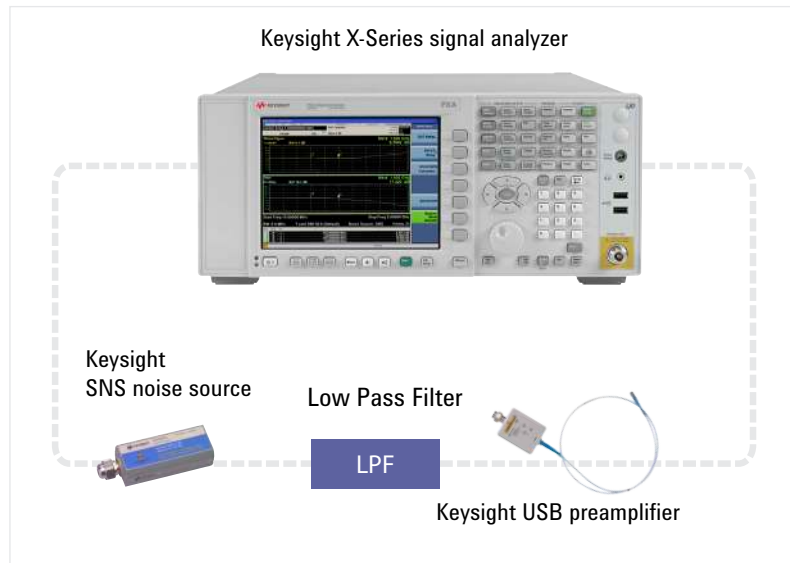
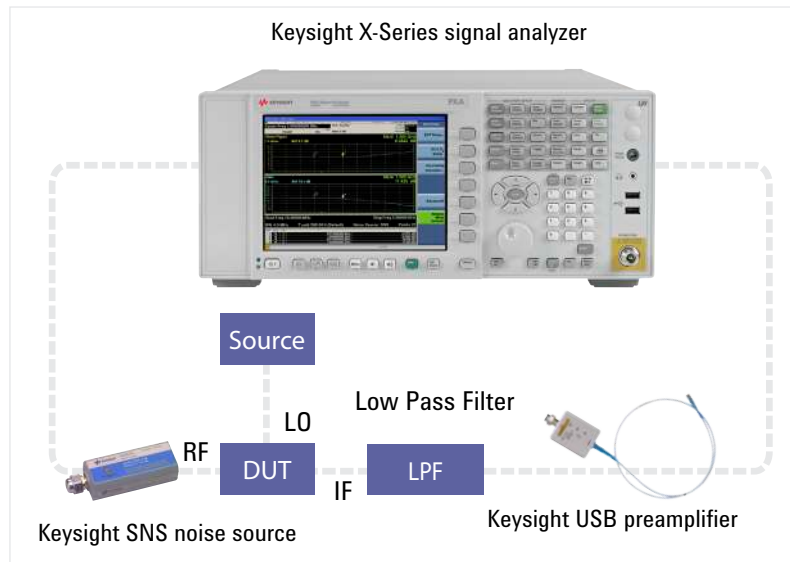

Figure 3. USB preamplifier calibration setup
Figure 4. Mixer noise figure measurement setup
Figure 4 shows a setup using a low pass filter (LPF) before the mixer (DUT) to remove any LO feed through. First the measurement system will require calibration (figure 3) which includes calibrating the LPF to include it in the measurement system. When the mixer local oscillator (LO) and IF input is connected to the signal analyzer, calibration is being carried out. When the calibration process is complete, the DUT will be inserted between the low pass filter and the SNS source with the LO input being connected to a source. Noise figure measurements can now be carried out for the DUT.